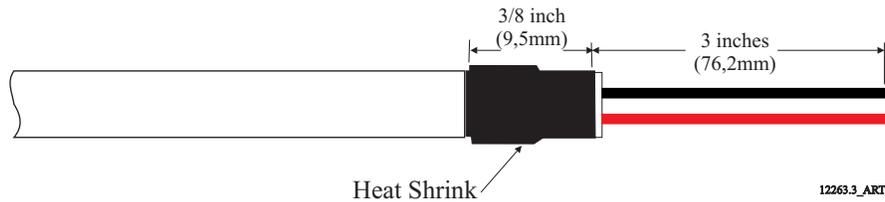

Figure 4-12: Two-Conductor Power Cable
- E Strip back 3 inches (76,2mm) of the PVC jacketing. Refer to Figure 4-12: Two-Conductor Power Cable.